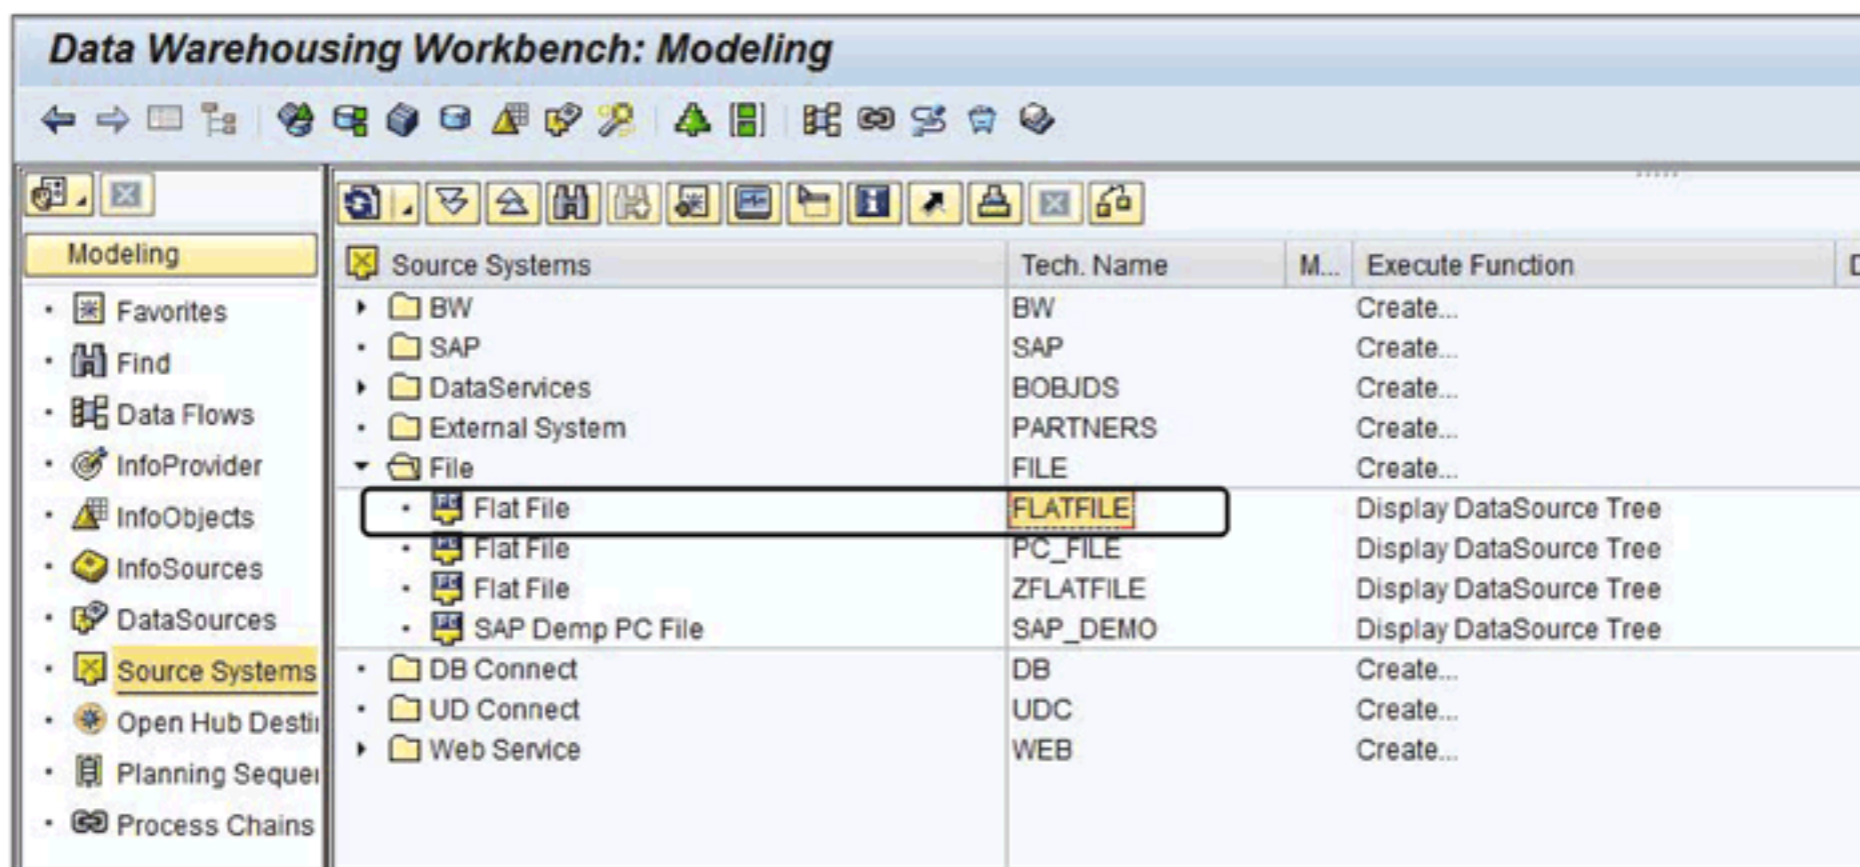

Figure 7.5 Source System Available in Source System Tree
Click on the CONTINUE icon (4). The result of this action is shown in Figure 7.5, where FLAT FILE is available under the SOURCE SYSTEMS tree.